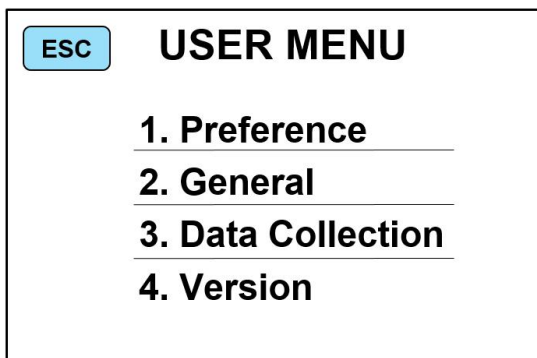
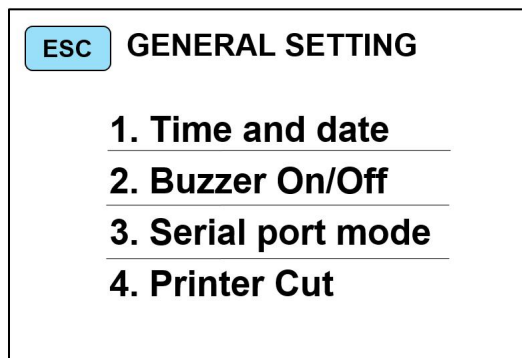

Figure 26
Figure 45
1) Press the “” key to enter the main interface of USER MENU, as shown in Figure 26 below, Press “**2.General**” to enter into GENERAL SETTING interface as Figure 45: